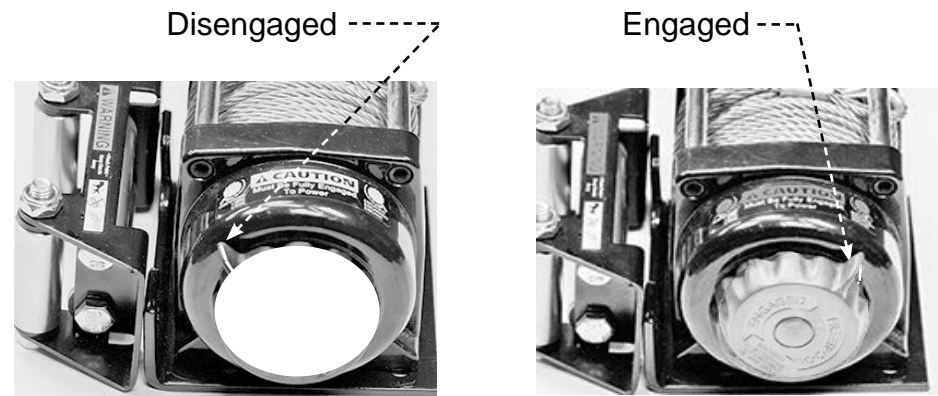

Figure 10
Turn the clutch knob to, Disengaged "Free" position as shown in Figure 10. Pull several feet of wire rope off the drum. Return the clutch knob back to the, "Engaged" position. Activate the
Turn the clutch knob to the, Disengaged "Free" position as shown in Figure 10. If there is a load on the wire rope, the clutch knob may not pull out easily. **DO NOT FORCE THE CLUTCH KNOB.** Release tension on the clutch by joggng out some of the wire rope.
Release the clutch and pull out the wire rope and secure to anchor or load. Check that there are at least five (5) turns of wire rope left on the drum. Re-engage the drum by returning the clutch knob to the, "Engaged" position. See Figure 10 .